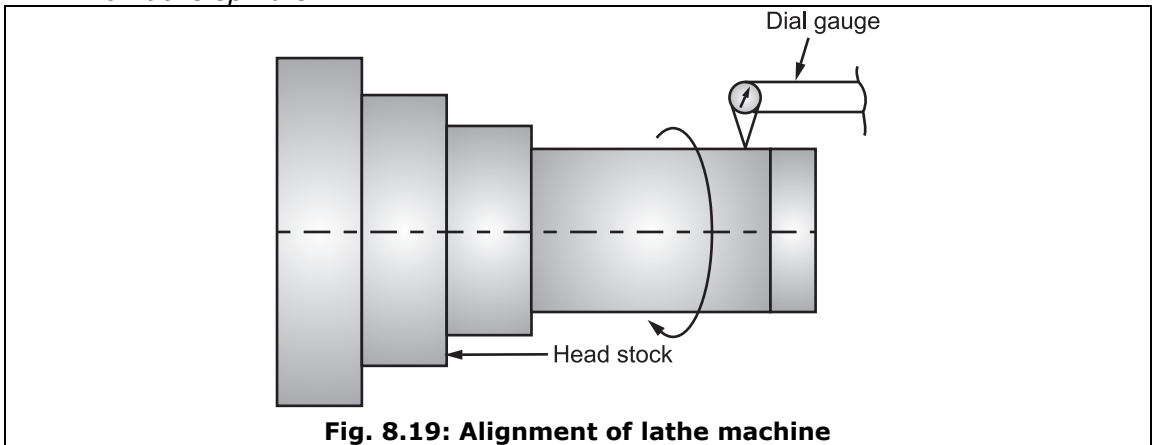

Fig. 8.19: Alignment of lathe machine
- Fig. 8.19 shows the arrangement of required set-up for conducting test.